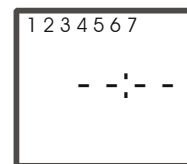

Figure 12: Start Programming Display
1. Press the **Prog.** key (only) once, and the Start Programming display appears. (See Figure 12.)
1. Press the **Prog.** key (repeatedly) to go to a blank Start Programming display. (See Figure 12.)
1. Press the **Prog.** key repeatedly and the programs appear in the order they were entered. After all the existing programs have been reviewed, the blank Start Programming display appears (see Figure 12) allowing you to enter additional programs.